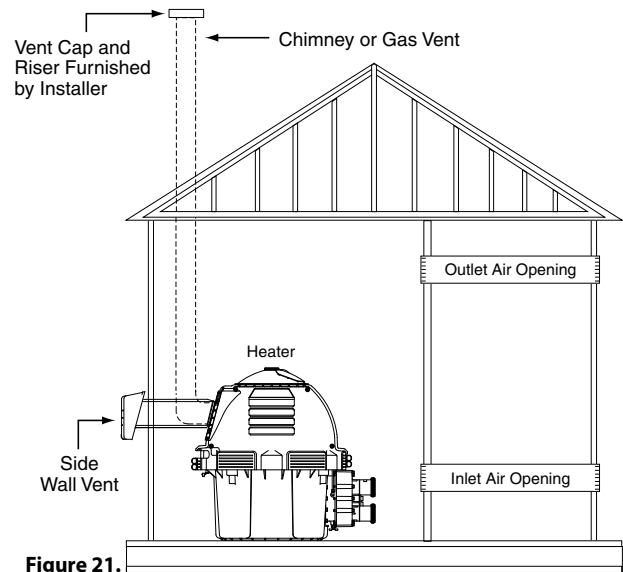

Figure 21.
6. **Vent Termination – Vertical** (See Figures 21, 22 and 23), for height of vent termination above the roof. Use an "Approved" vent terminal specified by local and national codes and your manufacturer's instructions. A roof termination must be vertical.
The terminal must be located (See Figure 21):